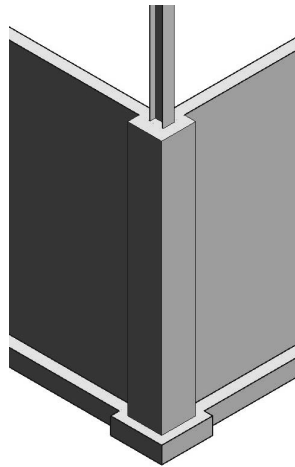

Figure 7–60
2. Which command do you use to insert a pier or a pilaster such as those shown in Figure 7–60?